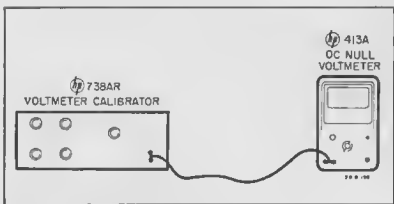

Figure 5-9. Performance Test (Voltmeter) Setup
b. Switch the voltmeter calibrator function switch to OFF, and connect the output connectors to the 413A INPUT as shown in figure 5-9.